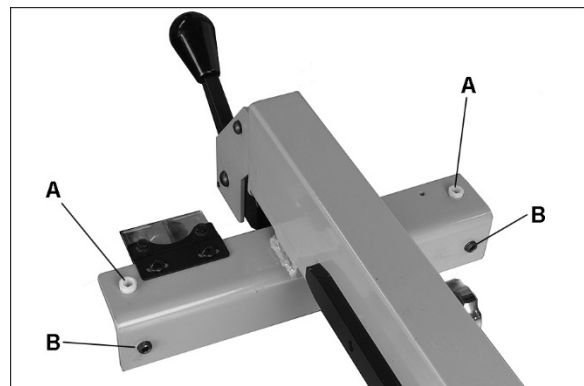

Figure 16: back adjustment screws
- With the provided 8mm hex wrench, rotate two nylon adjustment screws (A, Figure 16) the *same amount* to raise or lower fence body from the guide rail. Clockwise raises fence body, counterclockwise lowers.
2. If adjustment is needed, turn one of the back adjustment screws (B, Figure 16) to turn fence in line with miter slot.
Tightness of the fence against the guide rail can be adjusted by rotating the two back screws (B, Figure 16). Rotate the two screws *equally* (clockwise to tighten) with the hex wrench.